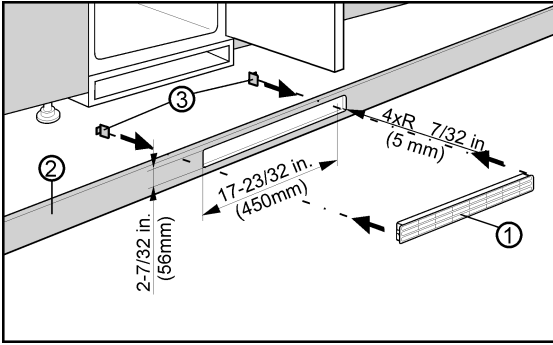

Fig. 6
Ventilation through the cabinet base at the bottom can be achieved by installing the provided ventilation grille *Fig. 6 (3)* or via a ventilation opening of at least 31 in² (200 cm²). When using the provided ventilation grille *Fig. 6 (3)*, please proceed as follows:
- ▶ Insert ventilation grille *Fig. 6 (3)* into the cabinet base cut-out *Fig. 6 (1)*.